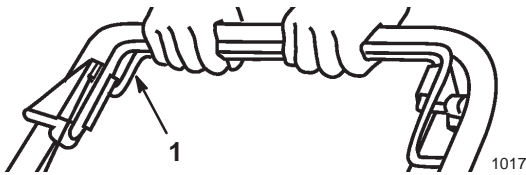

Figure 14
1. To operate the self-propel drive, squeeze the self-propel drive bail against the handle and hold it (Fig. 14).